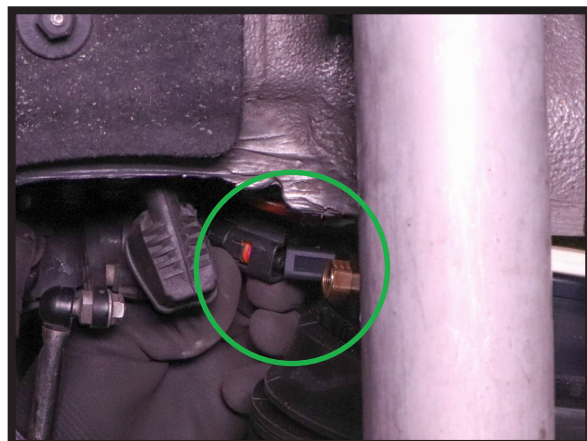

FIGURE 13
4. RECONNECT THE AIR SPRING ELECTRICAL CONNECTION. (FIGURES 13, 14)